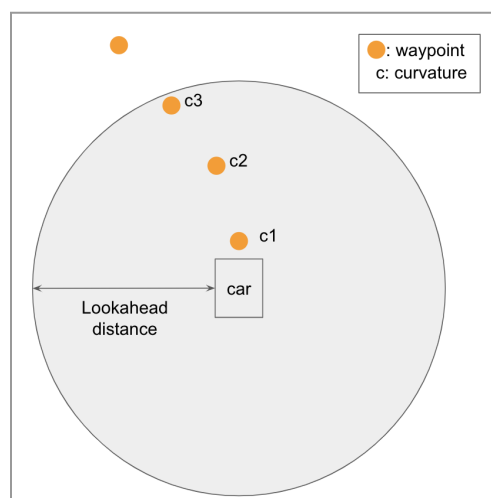

Figure 1
1. Compute the average of waypoints' curvature(avg_curve) that lie within lookahead distance as Figure 1 shows.